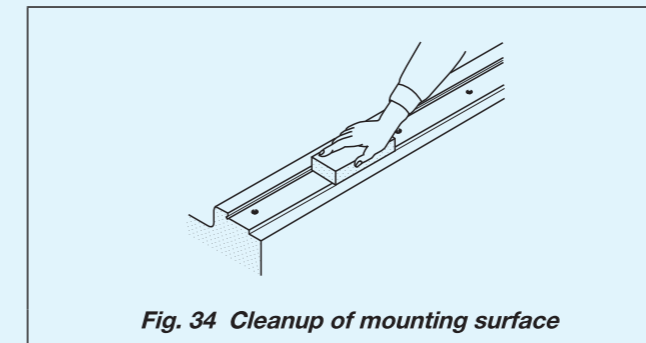

Fig. 34 Cleanup of mounting surface
- Remove burrs and blemishes by using oil-stone, etc. from reference mounting surface and mounting surface of the machine or the device to which Linear Way Module is mounted and wipe off with clean cloth (see Fig. 34).